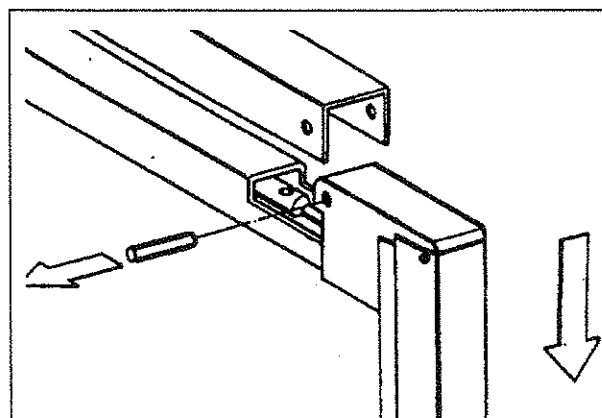

Figure 24 First arm balancing
- b) Lift the complete scissors arm in such a way to reduce the weight on the pin, remove screw and pin (see Figure 24 on page 41).